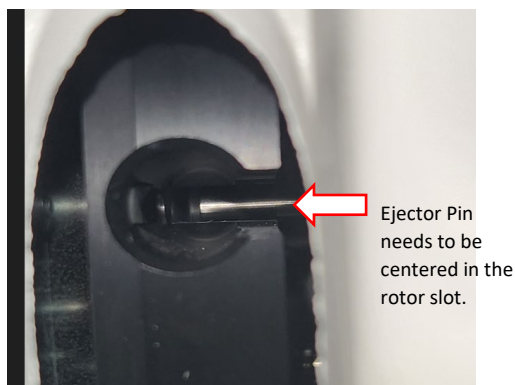

Figure 40
10.3.2.3. **Ejector Offset (Rotor Extract on printout)** is the position of ejector shaft in relation to rotor tube slot. It should be centered. See Figure 40 for reference. Use Download Position button to proper position rotor on the ejection position.